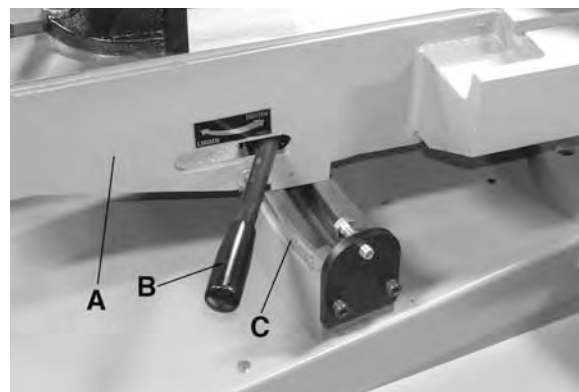

FIGURE 15
The swivel table (A) Fig.15 can be swiveled 0-45° for angled cuts.
1. Move the swivel table lock lever (B) Fig.15 towards the left to unlock swivel table (A).
2. Rotate the swivel table to the desired angle using the angle scale (C). Move the swivel table lock lever (B) towards the right to lock swivel table (A).